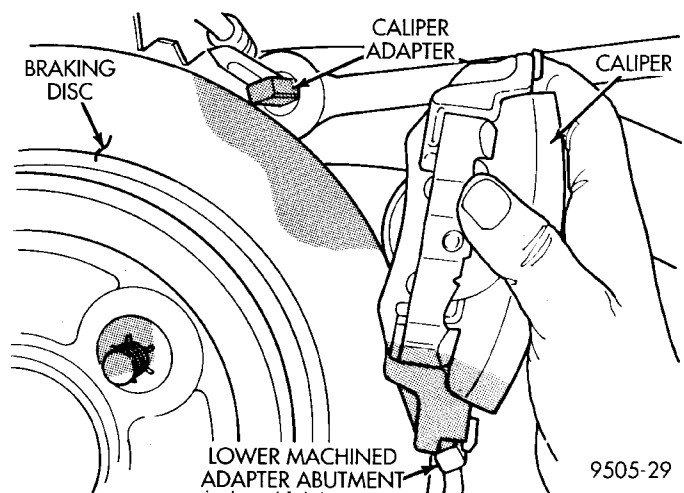

Fig. 73 Removing/Installing Caliper Assembly From Adapter
(4) Remove caliper assembly from adapter and rotor by first rotating top of caliper assembly away from adapter, and then lifting caliper assembly off lower machined abutment on adapter (Fig. 73).
(7) Carefully lower caliper and brake shoe assemblies over braking disc (rotor) reversing the required removal procedure (Fig. 73). Make sure that caliper guide pin bolts, bushings and sleeves are clear of the adapter bosses.